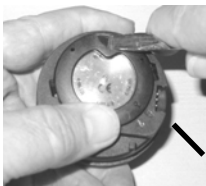

Fig. 68 -TIGHTENING the
- Using your fingers, turn the Ring counter clockwise 5 degrees until the tabs engage (Fig. 67), then tighten it 5 more degrees by turning it counter clockwise using the Battery Hatch Tool (Fig. 68).